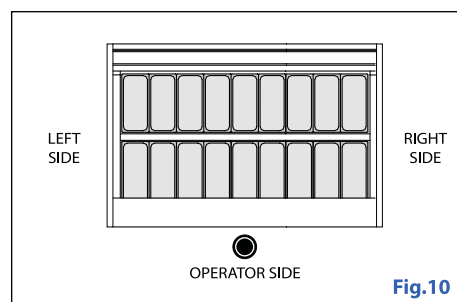

Fig.10
- In most situations, the terms "**left**" and "**right**" refer to the position of the operator standing in front of the work surface and facing forward (Figure 10), unless otherwise specified.